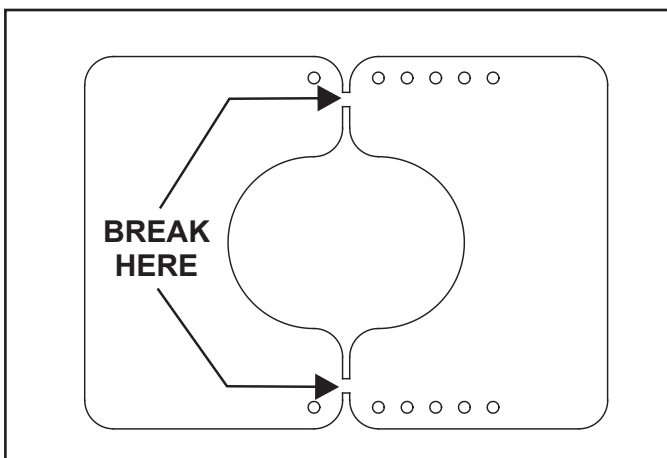

Figure 4.6 Break the Exhaust Restrictor
2. Break the flue restrictor into two pieces. Do this by bending the part back and forth until it breaks. See Figure 4.6.
1. Break the flue restrictor into two pieces. Do this by bending the part back and forth until it breaks. See Figure 4.6.